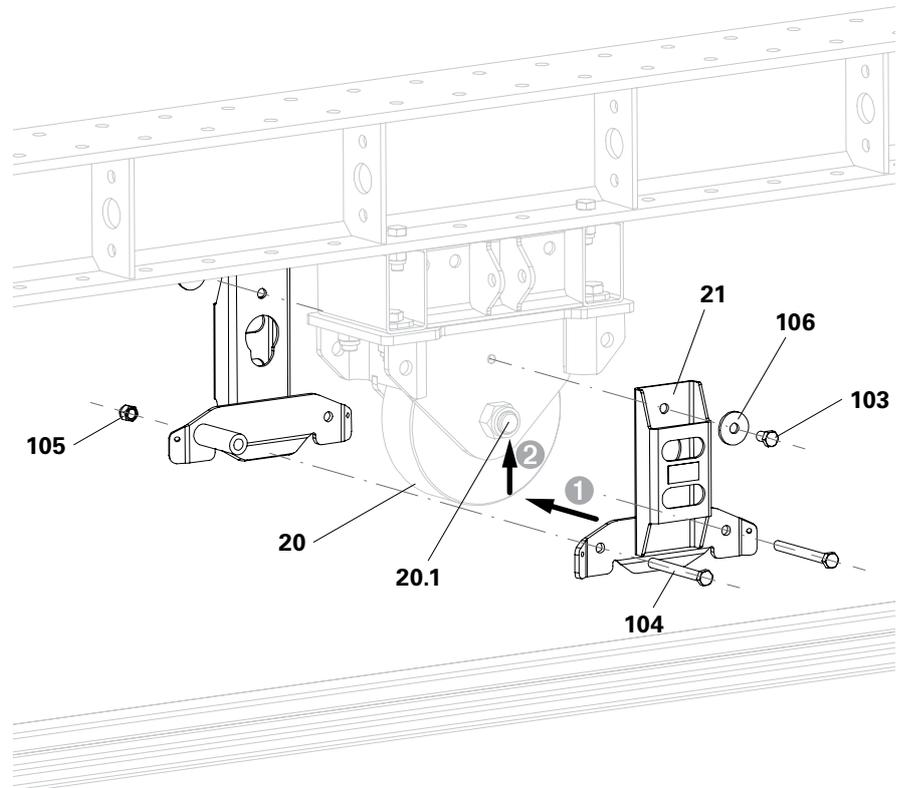

Fig. B2.12
1. Slide the Flange Cage (21) over the wheel bolt (20.1) and push it upwards.
2. Fix the Flange Cage (21) to the Heavy-Duty Wheel (20) on both sides using Bolts M16x25 (103) and Washers M16 (106).
3. Connect the two Flange Cages to each other with Bolts M16x150 (104) and self-securing Nuts M16 (105).
- (Fig. B2.12)